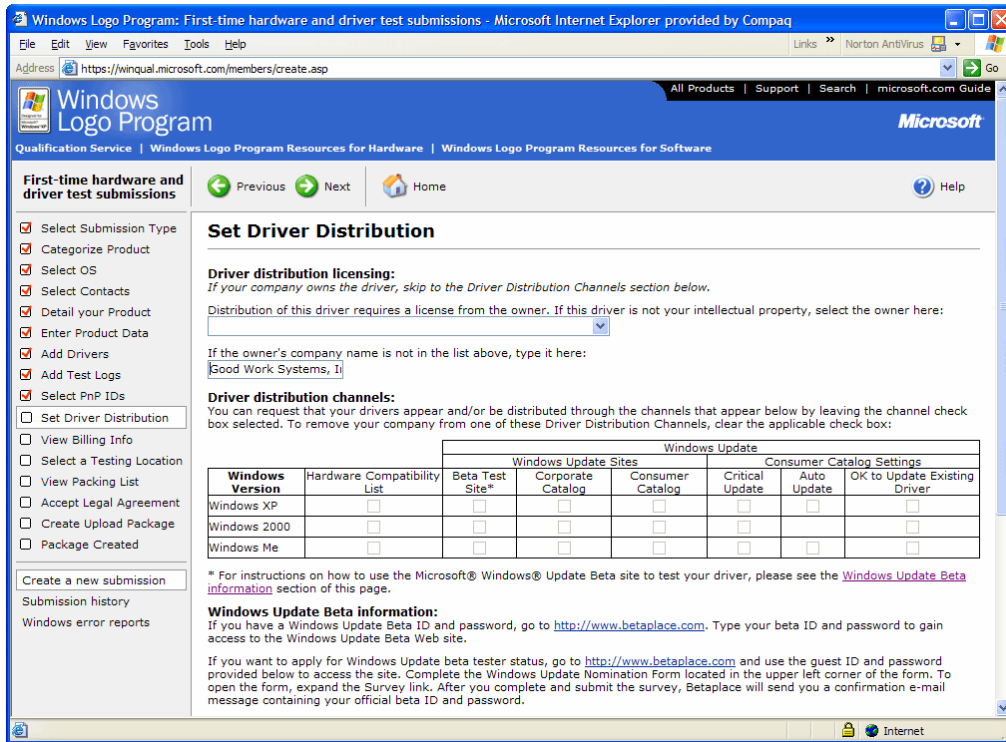

Figure 15-25. Specifying driver distribution channels.
- How will the driver be distributed? There are many choices, all of which are contingent on you having the right to distribute the driver. See Figure 15-25.